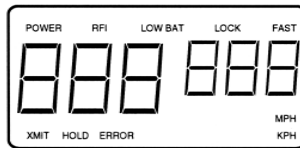

Figure 4.2
The three large digits (888) on the left display the vehicle speed. The three small digits on the right display either the locked speed or Faster target speeds depending on the setting you have selected (see Figure 4.2).